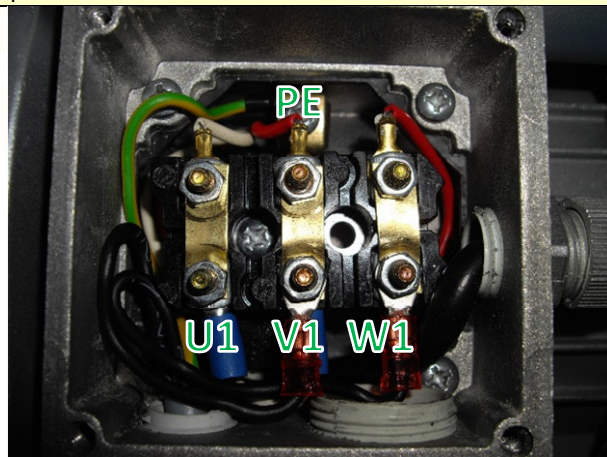

Fig. 4
- The connection wires L / N (black and labelled with numbers or brown / black and blue, depending on the cable) must be connected to terminals V1 and W1 (see Fig. 4)